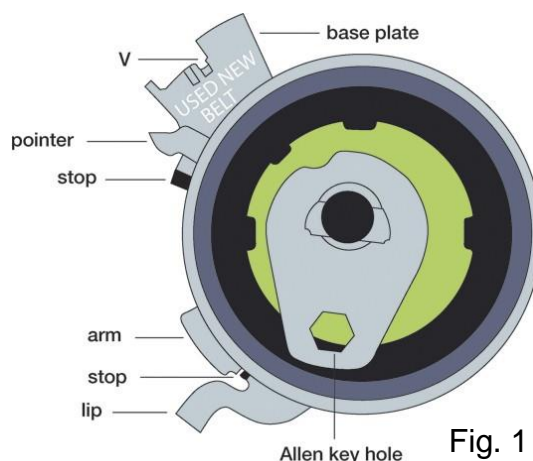

Fig. 1
6. Install the new tensioner, hand tighten the bolt. The tensioner lip **has to be** in the oil pump housing slot. (The tensioner pointer has to sit behind water pump pulley). The Allen key hole has **to be set** in +/- 7 o'clock position as shown in Fig. 1.